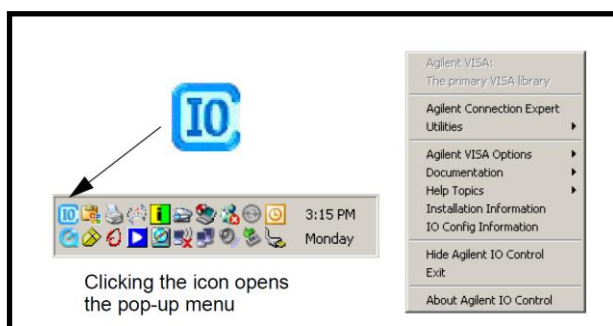

Figure D1– Open the I/O library software Agilent Connection Expert (ACE)
- 3) Click on the Agilent I/O icon in lower right of computer screen (figure D1)